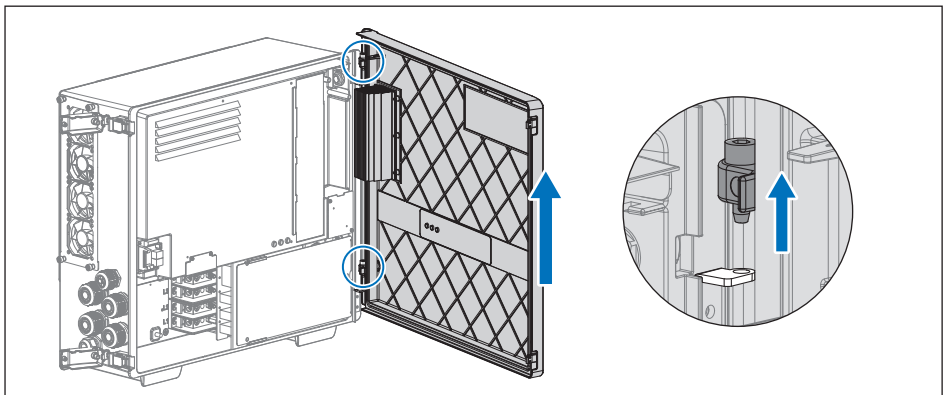

Figure 5-3: Remove the door
3. The inverter door can be removed for wider working space during installation or maintenance (**Figure 5-3**).